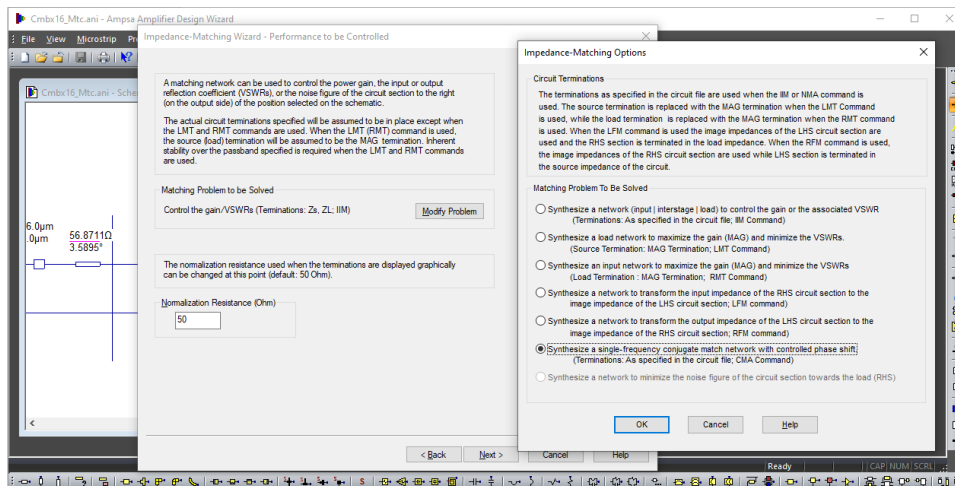

Figure 7. The CMA option provided in the IIM wizard. Use the Modify Problem command to open the Options dialog.
4. Select the insertion point for the matching network to be designed and use the IIM wizard to setup the specifications for this network. Solve the defined problem with a CMA network or synthesize solutions to it by using the Impedance-Matching module. Note the IIM wizard option to use CMA networks in Figure 7. Use the Modify Problem command to open the Impedance-Matching Options dialog.
5. Select the schematic element to the left of the insertion point for the matching network to be designed and then use the IIM command on the Synthesis toolbar to set up the matching problem. When the CMA option shown in Figure 7 is selected, phase-controlled networks (T-networks, PI-networks or Stepped-Line networks) can be synthesized to solve the matching problem. If this option is not selected, the Impedance-Matching module will be launched by the IIM wizard to solve the problem. Lumped, distributed (commensurate or non-commensurate) or mixed lumped/distributed networks can be synthesized by the Impedance-Matching module.